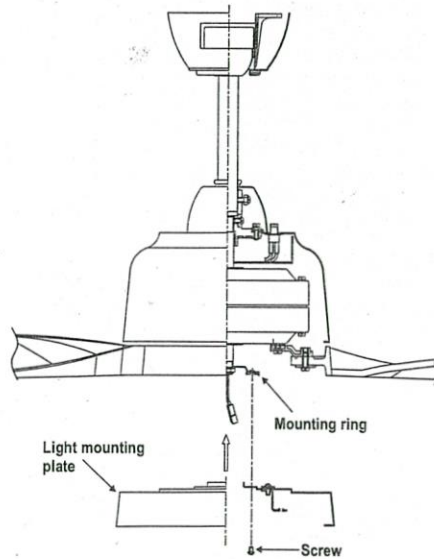

Figure 14
Step 2. Place the key holes on the mounting plate over the 2 screws previously loosened from the mounting ring, turn mounting plate until it locks in place at the narrow section of the key holes. Secure by tightening the 2 screws previously loosened and the one previously removed. (Figure 14)